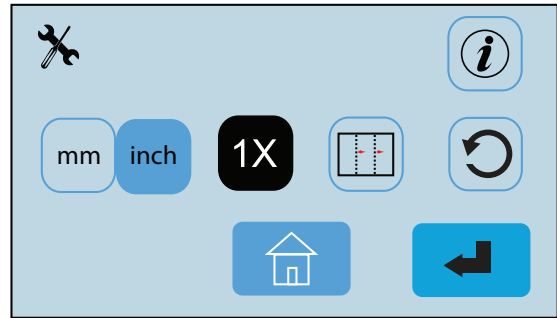

Fig. 43
1. From the Operator Settings Menu press the Test Icon  to access Test Sheet Setting (Fig. 43).